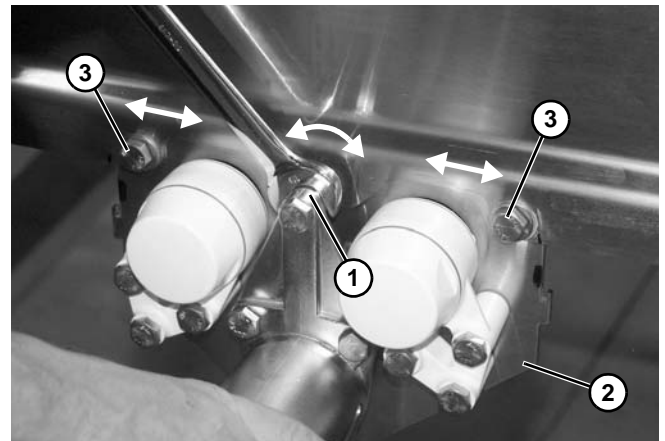

Figure 114
3. Rotate the tracking cam (**Figure 114, item 1**) left or right in small increments. After each adjustment, watch the belt as it exits the center drive (**Figure 114, item 2**). Continue to rotate the tracking cam until the conveyor belt is tracking normally.
4. Tighten the center drive fastening screws (**Figure 114, item 3**) to 28-32 Nm (20-24 ft-lbs).